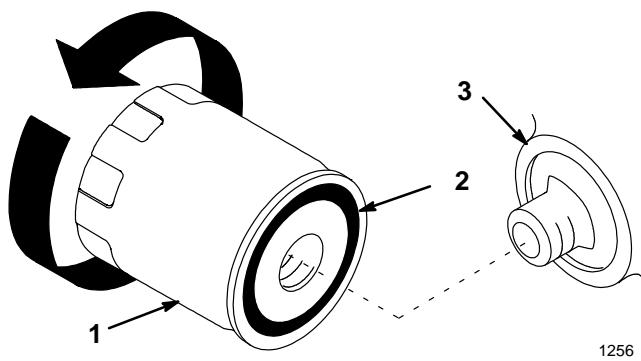

Figure 49
2. Remove the transaxle filter and wipe the filter adapter (Fig. 49) gasket surface.
3. Apply a thin coat of new oil to the rubber gasket on the replacement filter (Fig. 49).
4. Install the replacement transaxle filter to the filter adapter. Turn the filter clockwise until the rubber gasket contacts the filter adapter, then tighten the filter an additional 3/4 turn (Fig. 49).